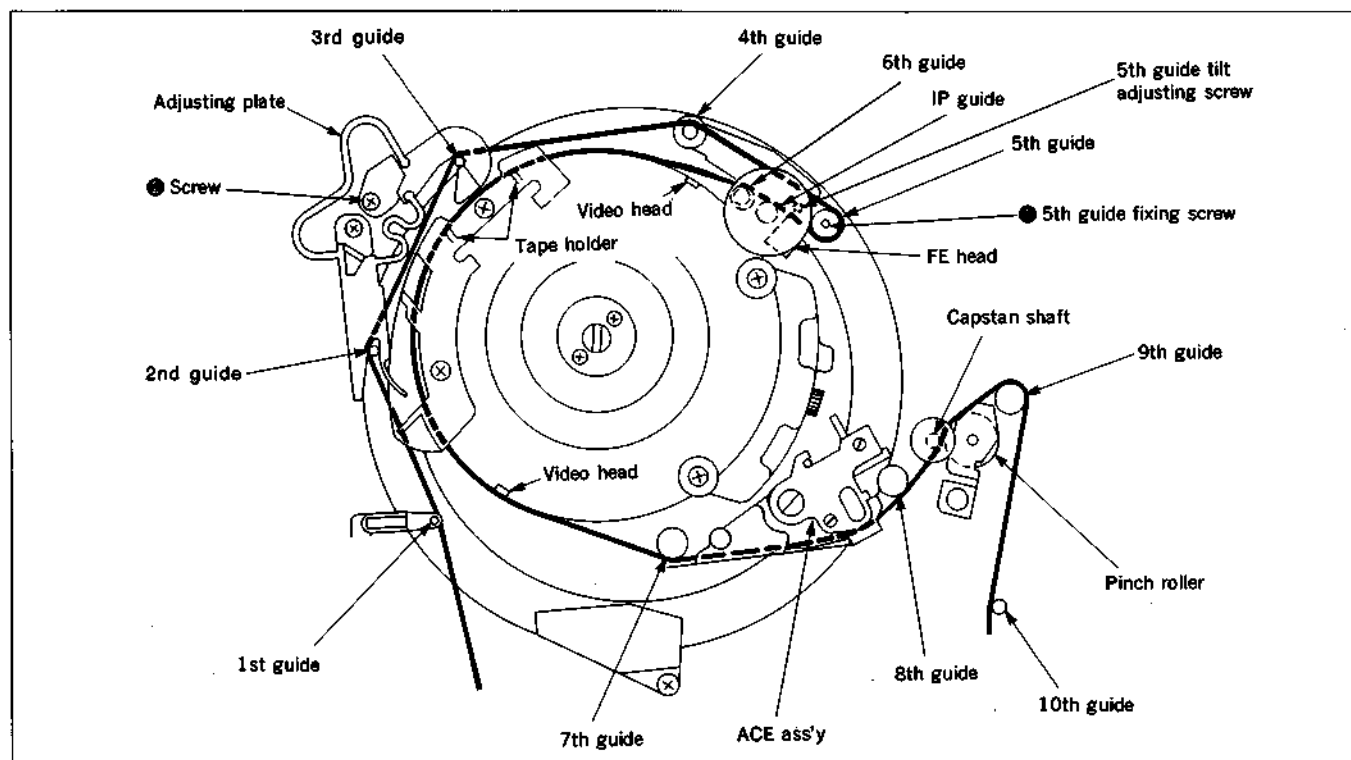

Fig. 7-36. Locations of tape guides
Fig. 7-36 shows the individual tape feeds and adjustment positions when practicing the tracking adjustment on the entrance side.
- 4) Loosen the 5th guide fixing screw ①. Turn the 5th guide until the waveform on the entrance side presents small projection form flatness as Fig. 4-35. Then, tighten the 5th guide fixing screw ① (Figs. 7-36. and -37.).